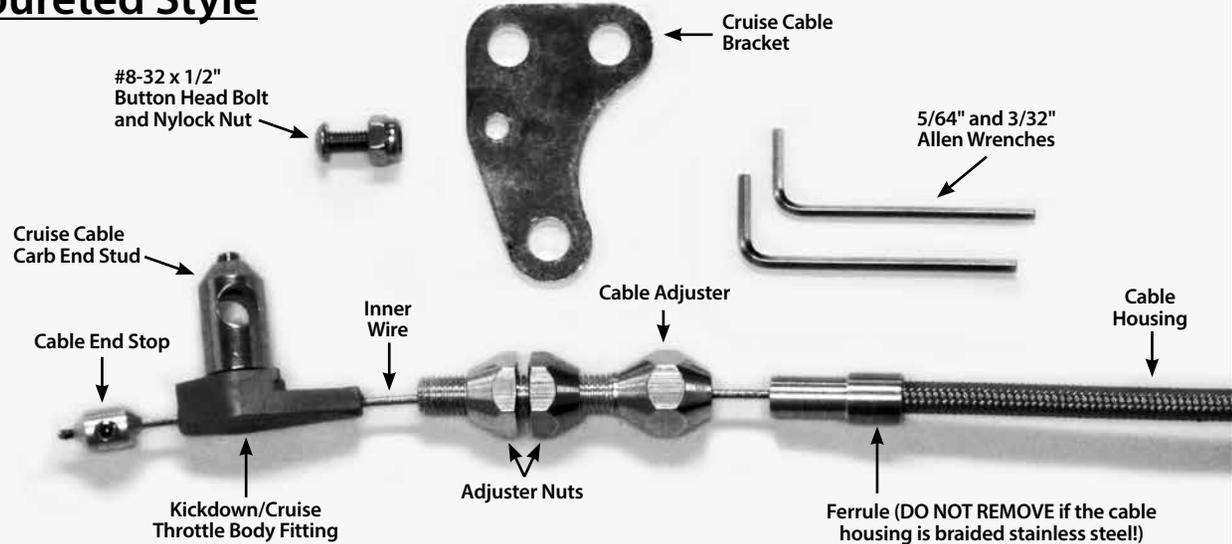
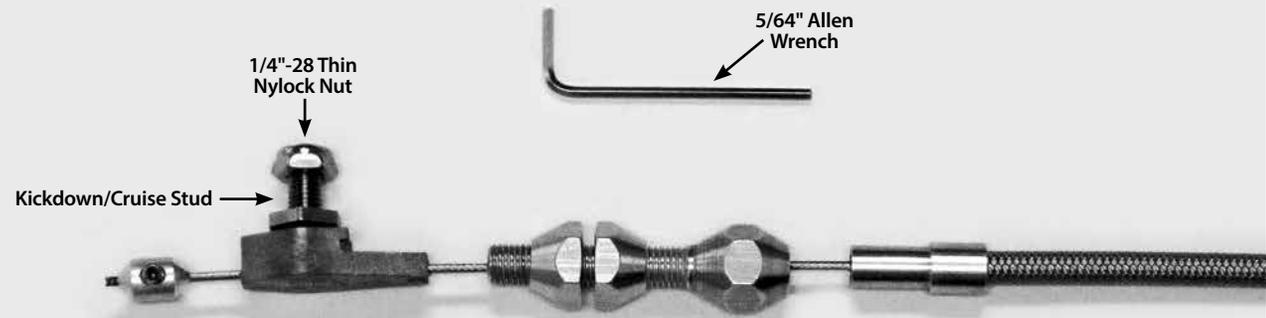

Fig. 1
Fig. 2
Refer to Fig. 1, 2 and 3 for the part names.
Step 2: Remove the cable end stop, kickdown/cruise throttle body fitting, and cruise cable carb end stud (carbureted style applications) or kickdown/cruise stud (vertical EFI style applications) from the Lokar Cruise Control Cable inner wire. Remove the cable adjuster from the end of the cable housing. **DO NOT** remove the ferrule if the cruise control cable has a braided stainless steel housing! If the cruise control cable has a black universal housing, remove the ferrule. **Fig. 1 & Fig. 2.**